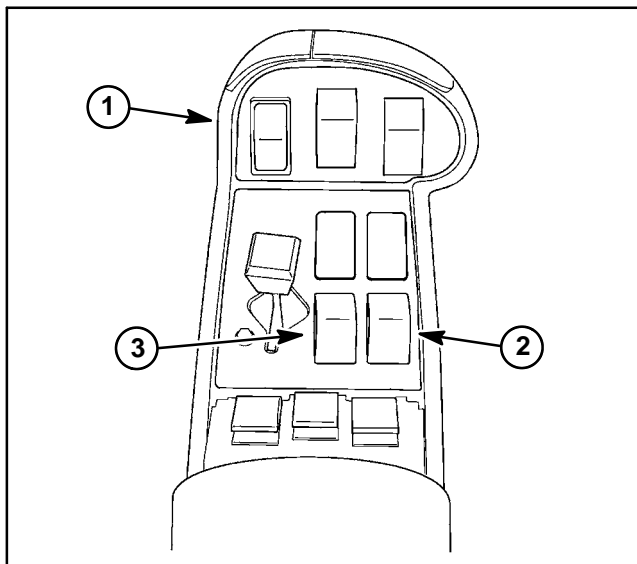

Figure 16
The two (2) boom lift switches are used to raise or lower the spray booms. When a boom switch is pressed, necessary boom lift manifold solenoid valve coils are energized to allow hydraulic flow to the boom lift cylinder. These switches are located on the console assembly (Fig. 16).